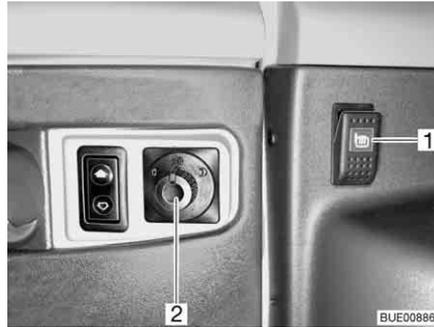
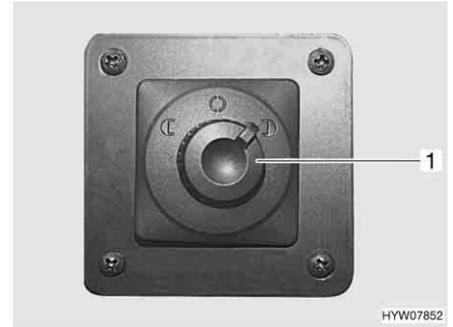

Fig. 31 External mirror adjustment and heater switch
Fig. 32 External mirror adjustment switch
- Select the external mirror to be adjusted. To do so, turn the rotary switch (Fig. 31,2 or Fig. 32,1) to the left or right.
- Press the switch (Fig. 31,2 or Fig. 32,1) in the appropriate direction.
- Press the switch (Fig. 31,1) on the dashboard. The switch indicator lamp shows it is in operation.